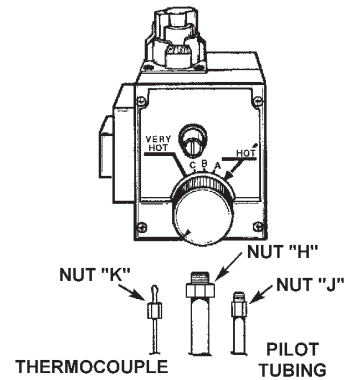
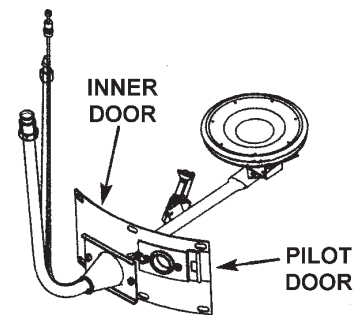
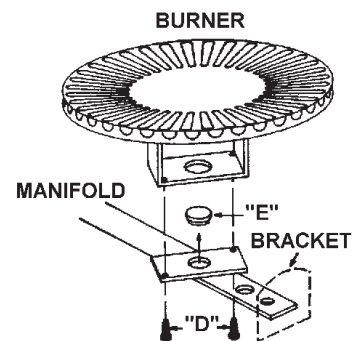
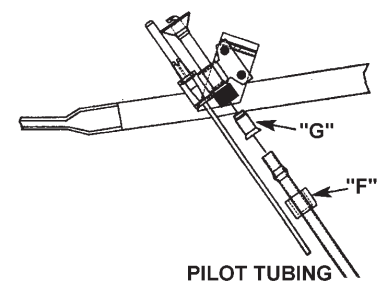

FIGURE 32.
FIGURE 33.
FIGURE 34.
FIGURE 35.
- Step 3. Remove burner assembly from water heater control by first removing 6 screws holding inner door to heater, then loosening 3/4" nut "H" holding burner assembly to control, see figures 32 and 33. Loosen pilot tube nut "J" and thermocouple nut "K" at control.
- Step 4. Remove screws "D" disengaging manifold from burner, see Figure 34 page 19.
- Step 5. Remove orifice "E", see Figure 34 page 19 using 3/8" wrench. Install orifice marked "L.P." found in the bag into manifold. Tighten securely. Secure burner to manifold with screws "D".
- Step 6. Loosen pilot tube nut "F", see Figure 35 page 19. Remove orifice "G" and replace with red colored orifice found in bag. Reinstall nut "F" and tighten securely.
- Step 7. Make sure all connections are tightened securely, and reinstall burner assembly into water heater. Position end of manifold inside bracket as shown in Figure 34 page 19. Reinstall manifold into control and tighten 3/4" nut ("H") securely. Recheck to see that end of manifold is still inside bracket as shown in Figure 34 page 19. Reinstall pilot tubing and thermocouple into control, see Figure 32 page 15. Reinstall inner door using the 6 screws removed in Step 3.
- Step 12. Open pilot door. The pilot is located in front of the burner, see Figure 33 on page 19.
- Step 14. Push in control knob all the way and hold down. Immediately light the pilot through pilot light hole with a match held by a match holder wire. Continue to hold control knob in for about one (1) minute after the pilot is lit. Release knob and it will pop back up. Pilot should remain lit. If it goes out, repeat Steps 9 through 12.
- Step 15. Check for gas leaks with only pilot flame burning using soapy water solution, not a match or open flame. Check for gas leaks at fittings "F" and "G", see Figure 35 page 19 and at fittings "J", see Figure 32 page 19.
- Step 19. With a soapy water solution, not a match or open flame, check for gas leaks at gas connection "H", see Figure 32 page 19. If gas leak occurs, turn off immediately by shutting off gas cock at inlet to control, or by turning gas control knob (↻) to "PILOT" pushing down and turning to "OFF". Repair gas leak as necessary, and repeat Steps 9 through 19.